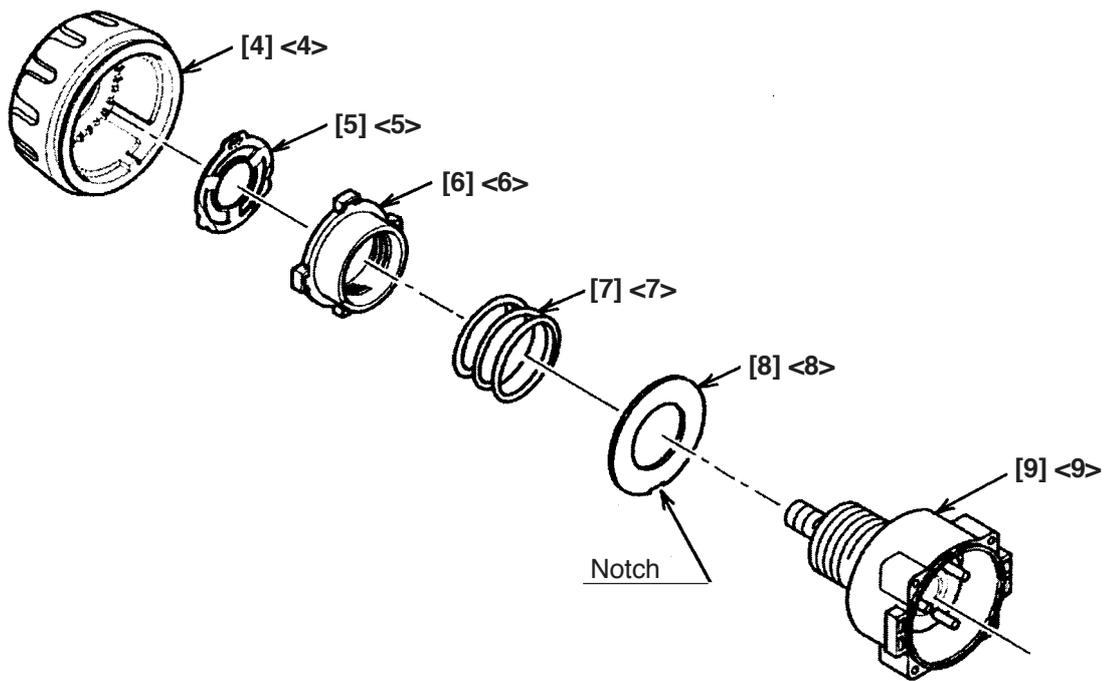

Fig. 6
(2) Reassembly of the clutch unit
(a) Mount Washer (D) [8] <8> and the Spring [7] <7> to the Front Case [9] <9>. (See Fig. 6.)